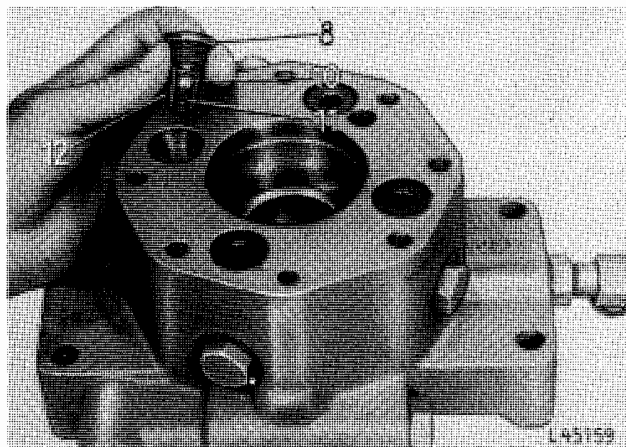

Fig. 2 — Removing Intake Valve Assemblies
4. Remove intake valve assemblies (see fig. 2).